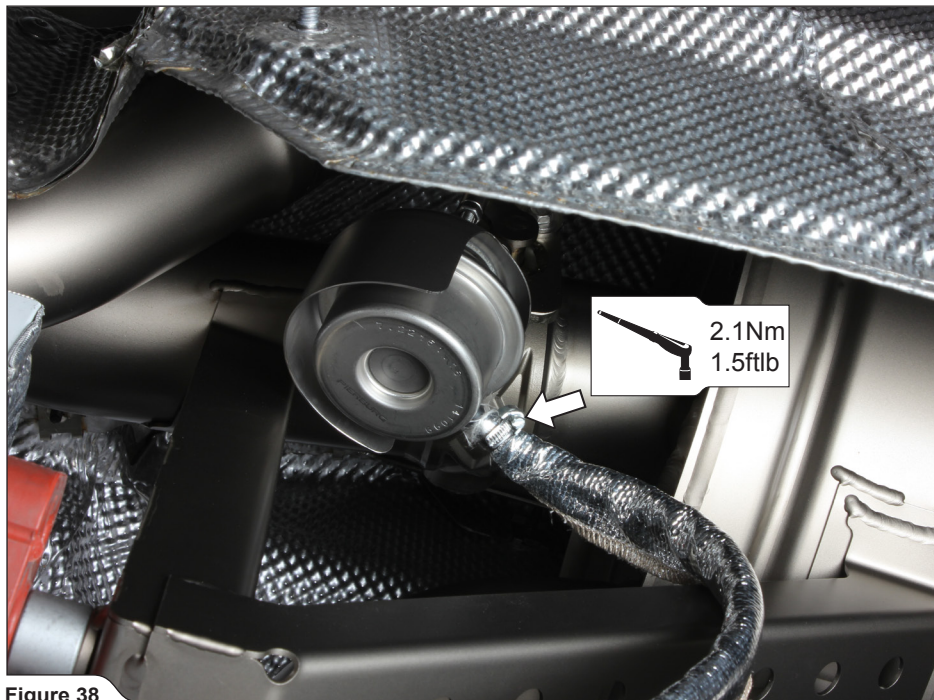

Figure 38
5. Replace the stock vacuum tubes with Akrapovič vacuum tubes, as shown (**Figure 38, 39**).